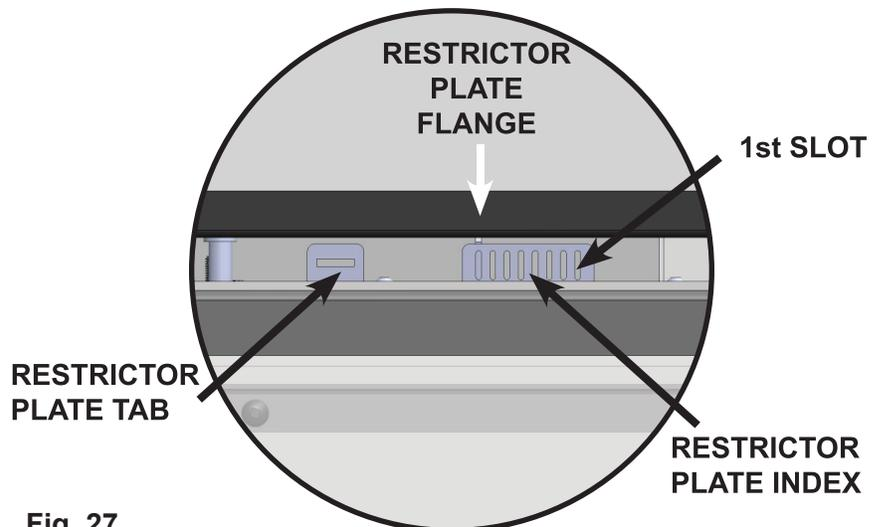

Fig. 27
When installing this appliance it may be necessary to adjust the restrictor in the firebox to control the combustion and flame appearance. The appliance factory setting is the 1st slot (0%) as shown in **Fig. 27**.
4. Moving the restrictor plate on each side one open slot at a time on the restrictor plate index closes off 10% of the exhaust. (**Fig. 27**):
6. Once the vent pipe sections have been joined and extended up through the hole in the roof, slip an elbow strap over the exposed sections, bend the support straps outwards, and push the elbow strap down to the roof level, as shown in **Fig. 27**. Tighten the clamp around the pipe section. Use a level to make sure the pipe is truly vertical. With roofing nails, secure the support straps to the roof. Seal the nail holes with non-hardening mastic. Trim the excess length of the support straps that extend out beyond the edge of the flashing.
9. Slip the storm collar over the pipe, and push it down to the top of the roof flashing as shown in **Fig. 27**. Use the non-hardening sealant around the joint between the pipe and the storm collar.